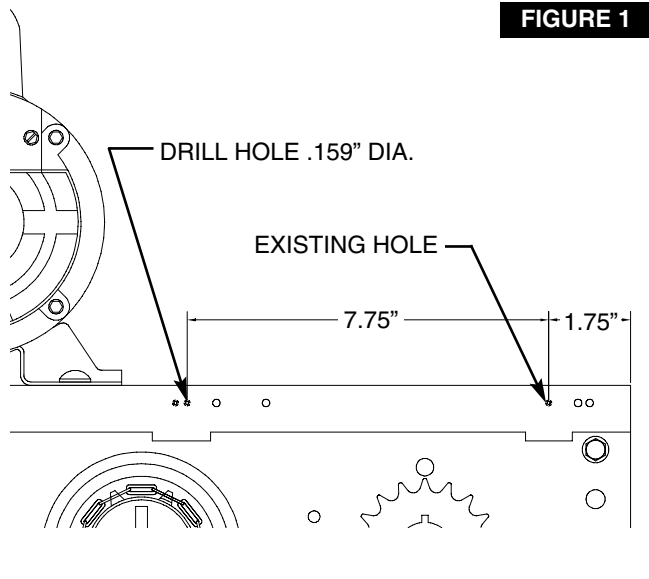

FIGURE 1
Locate the #10-32 Tapped Hole 1-3/4" from the end of the motor mounting frame. Drill a #21 Drill .159" Dia. Hole 7-3/4" from the hole just located. Repeat same steps on opposite side. (See Figure 1).
Place the electrical box on the motor plate, aligning the tabs on the box with the holes just located in the step above (See Figures 1 & 2). Attach the new electrical box using the (4) screws provided. Do not tighten screws at this time.